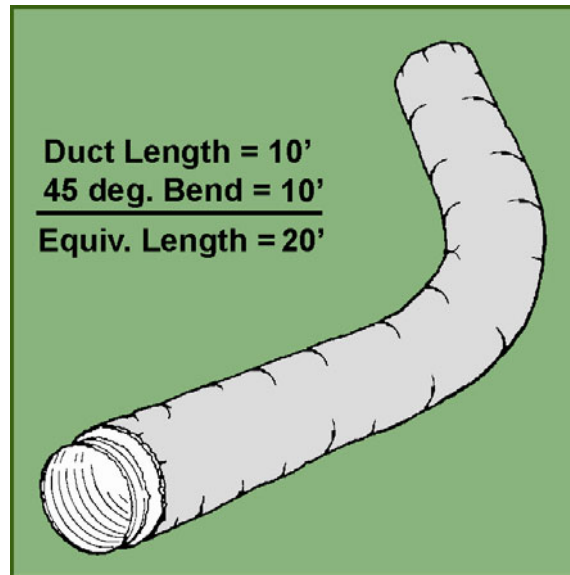

Figure 16
A gradual 45-degree bend has pressure drop equal to about ten (10) lineal feet of flexible duct. Add ten (10) equivalent feet to the length for each gradual bend (see Fig. 16).